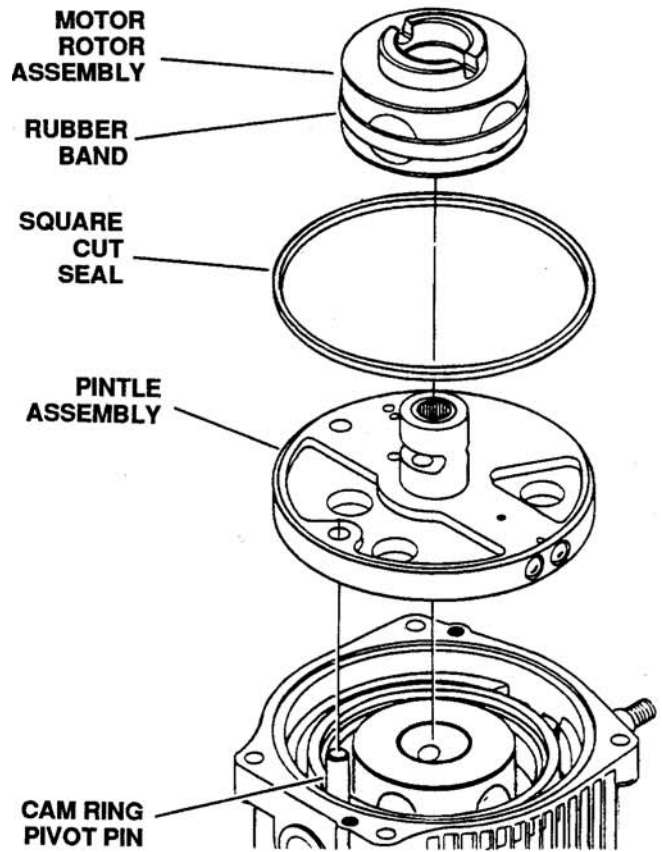

Figure 6-135. Installation of Square Cut Seal and Rotor Assembly
26. Lightly grease a new square cut seal and install it in the groove in the housing. See Figure 6-135.